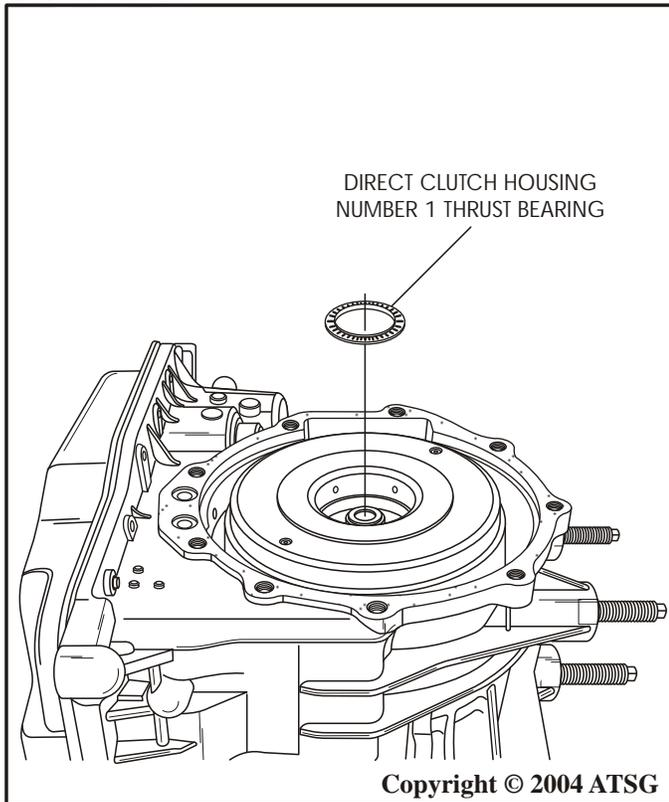

Figure 175
48. Install the number 1, direct clutch housing thrust bearing, with the needles facing up, as shown in Figure 175.